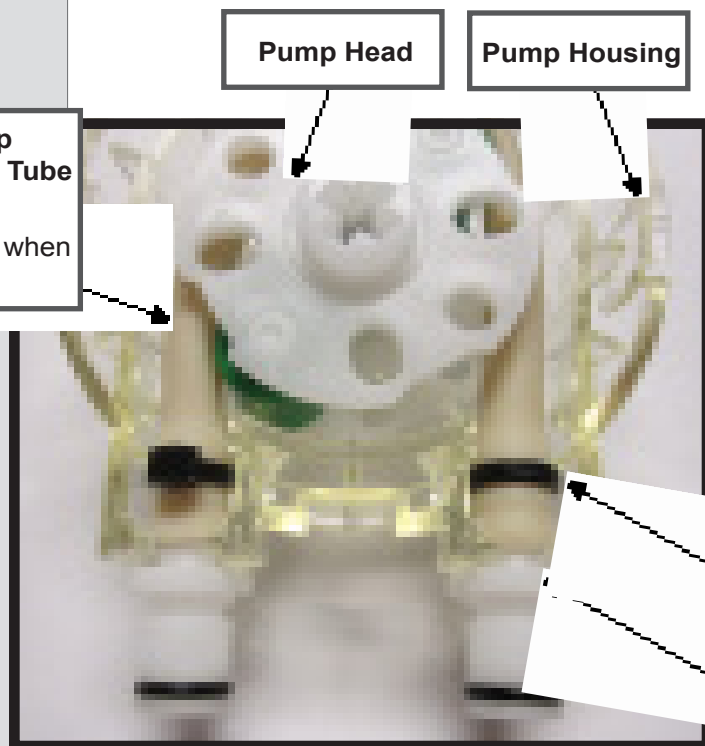

Figure 11-4 Syrup Pump Housing
1. Place a silicone bead of a lubricant i.e. Dow Corning Compound 7, [HC158066] on the outside of each pump peristaltic tube. Wrap the peristaltic tube around the pump head centering it on the rollers. Place the head in the housing making sure the white plastic coupling is outside of the housing and the black tie wrap is inside as shown in figure 11-4.
- e. Select a syrup flavor by pushing the proper button then press the syrup prime/calibrate button (see figure 11-4 item 2). Hold the button until sanitizer is flowing into bucket. Continue holding button for one (1) minute.